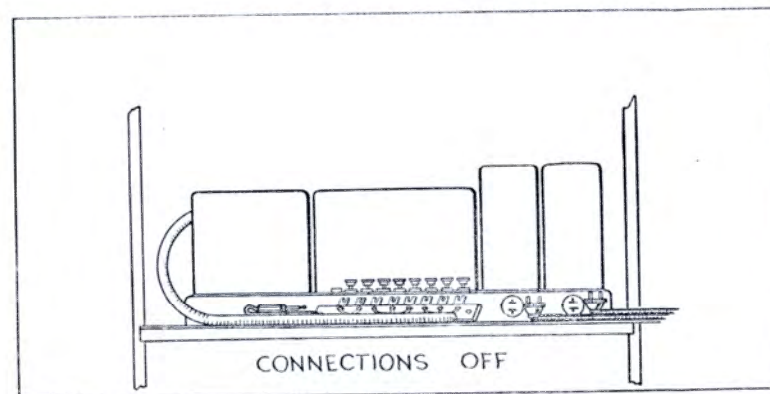

Fig. 11-A—Showing No. 404 Connections Off
6. Connect the terminal shoe of the A-B-C Supply Cable to binding posts on terminal strip of Socket-Power Unit. Insert pin plug (on red cord) into pin jack on terminal strip of Socket-Power Unit. (See Fig. 11.) Insert the electric light attachment plug to be found in the Socket-